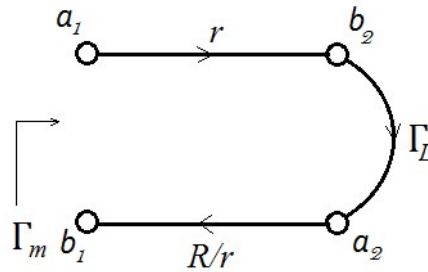

Figure 2: 1-term error model
As we all know it is impossible to make perfect test set equipment for measurements. Errors due to many sources will be introduced into our measurement. Fortunately, many of them are deterministic, meaning they can be predicted and controlled. Error corrections are introduced to eliminate these deterministic noise out of our measurement. The simplest error correction model is depicted in Figure 2 where only *Reflection Tracking (R)* error is taken into account. It is the summation of errors caused by variations in magnitude and phase flatness versus frequency between the test and the reference signal paths. They are usually called tracking (frequency response) errors. The equation relating the measured reflection coefficient Γ_m with the actual one Γ_L is, in 1-term error correction model, given by